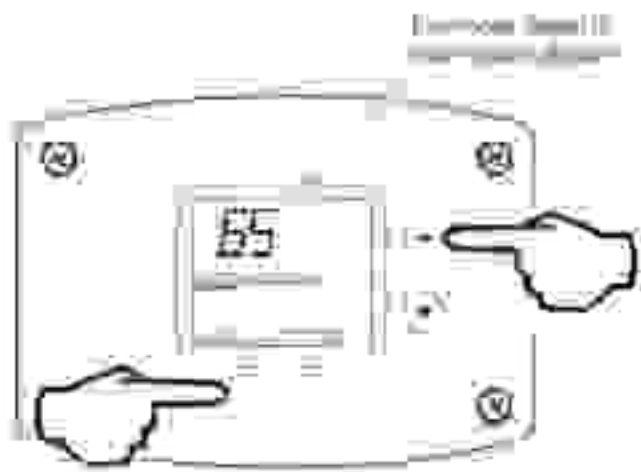

Fig. 67
1. Press for 3 seconds to enter service mode (Fig. 67).